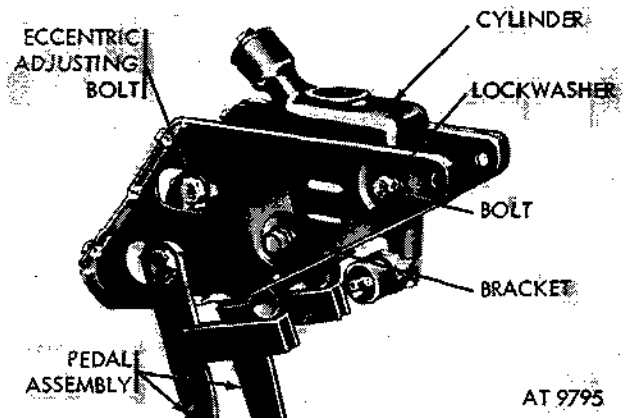

Figure 2-377. Remove master cylinder from pedal assembly.
(6) Remove adjusting eccentric bolts, nut, flat washer and two bushings from brake pedal and push rod. Remove two bolts and lock washers securing master cylinder to bracket (fig. 2-377).